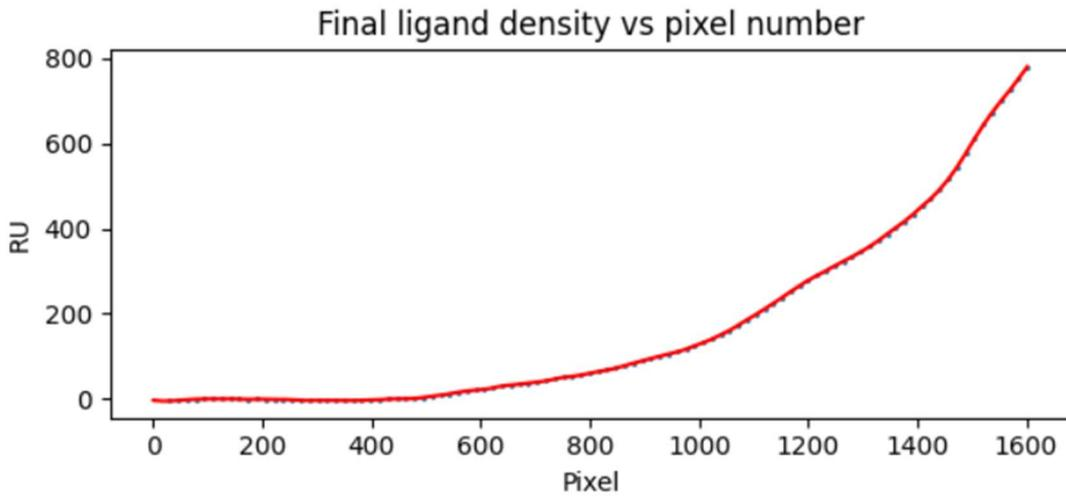

Figure 3. Anti-Her2-Biotin continuous ligand density gradient generation. Final ligand density on the sensor surface plotted per pixel.
- Final ligand density per pixel, Figure 3.
Figure 3. Cell Avidity of LNCaPs on an anti-Her2-Biotin ligand density gradient. LNCaPs were opsonized with anti-Her2 in different concentrations. Tipping points are visualized in the SPR images where LNCaPs remain bound under flow.